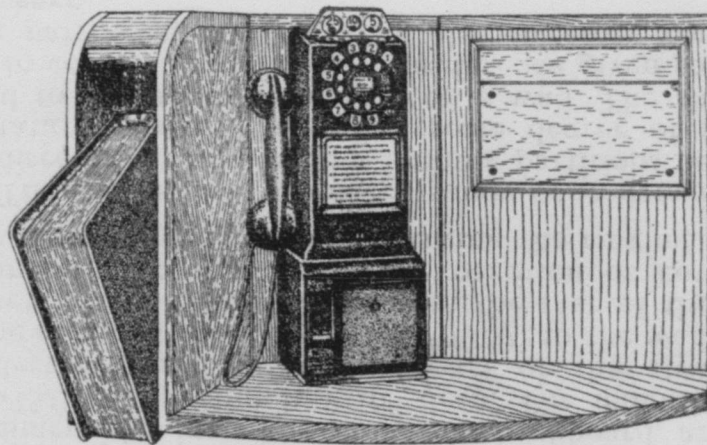

Fig. 1—19A Shelf
2.03 The 19A shelf is illustrated in Fig. 1.
2.04 As shown in Fig. 1 the telephone directory hangs in a standard hard cover binder. The directory compartment accommodates a 2-1/2" binder capable of containing the largest directory in common use. In some areas directory needs may require that two smaller directories be enclosed in a single binder. The compartment is sufficiently recessed to permit the directory to hang freely and a felt covered bumper dampens the impact when the book is released.